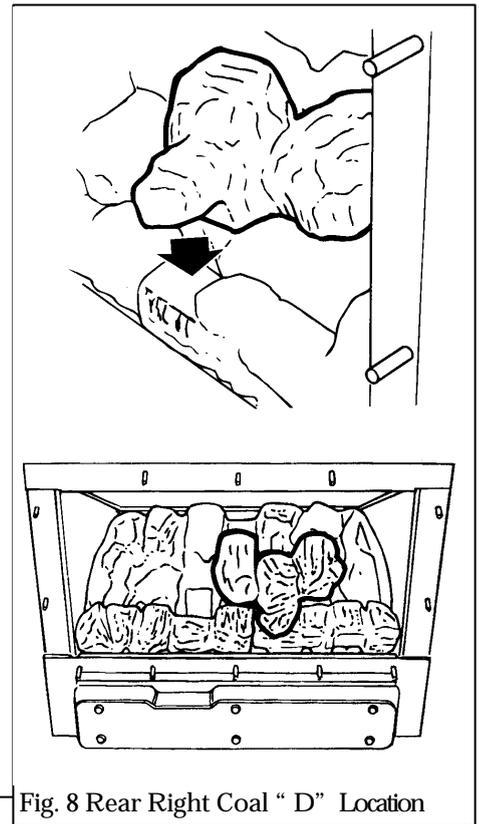

Fig 8 Rear Right Coal " D" Location
3.3.5 Place the rear right coal (embossed 'D' underneath) in position as shown in figure 8.